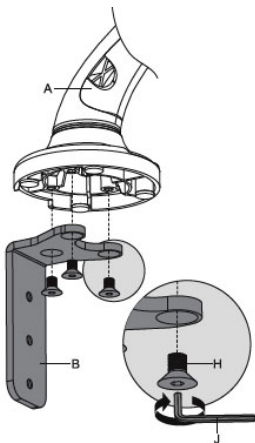
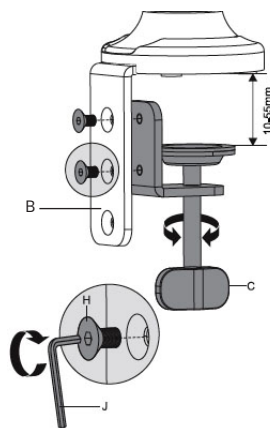

Figure 1
Figure 2A
1. Install the C-Clamp Brace (B) to the Extension Arm (A), secure them using Bolt (H) with Allen Key (J) turning clockwise until tight, see Figure 1.
2. Install the C-Clamp (C) to the C-Clamp Brace (B) according to the thickness of your desktop.
- 2a) Desktops of 10mm-55mm thickness: Select the two upper mounting holes and secure them using Bolt (H) with Allen Key (J) turning clockwise until tight, see Figure 2A